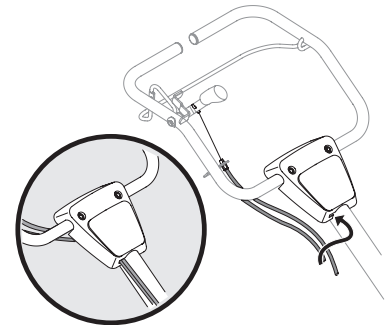

Figure 3
5. Clip the cables into the cable guides located on the handle assembly panel as seen in Figure 3.